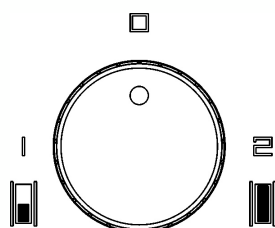

Fig.2
grilling zone (fig.A)  or the entire  grilling zone (fig.B) rotate the knob (6) to the desired position (figure 2). Illumination of the indicator light (8) indicates that the appliance is being powered.